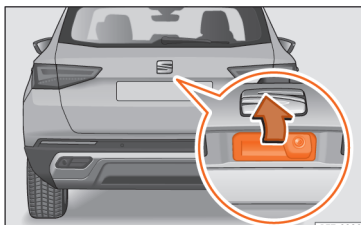

Fig. 59 Rear lid: opening from the outside.
- *Open*: place slight pressure on the handle. The rear lid opens automatically. >>> **Fig. 59**.